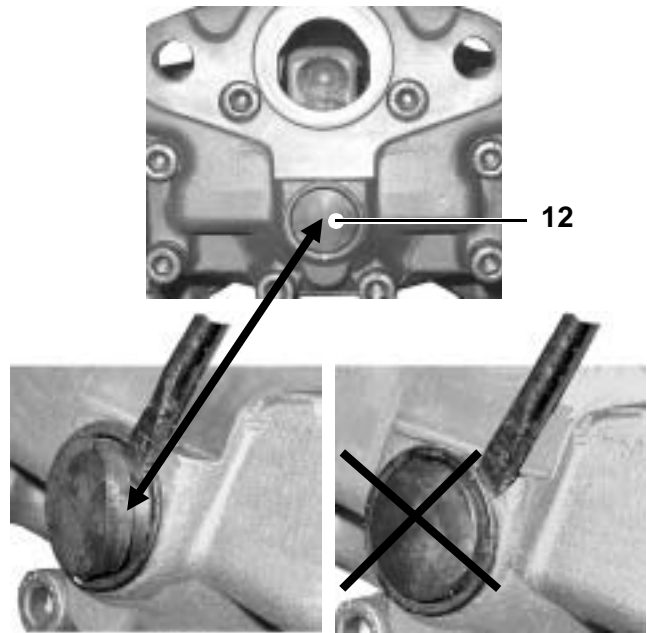
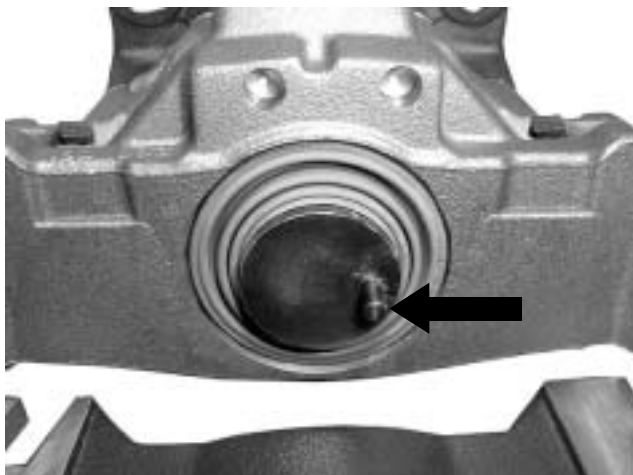

Fig. 2
Fig. 17
- Remove plug (12) for the adjuster from the caliper (22) carefully.
**Caution:** On disassembly the proper tool position is against the plug 12 (left side in Fig. 2)!
Do not place the tool between caliper and outer side of the sealing ring otherwise there is a danger of the damaging the inner sealing (right side in Fig. 2)
- Remove plug (12) for the adjuster (22) of the caliper (1) carefully.
**Caution:** While disassembling plug (12) please note the instructions for fig. 2!
- De-adjust the brake by rotating the hexagon on the adjuster nut (22) with a ring spanner than release by approx. 1/4 turn.
When re-adjusting push back the spreader plate (19) by hand to ensure that the pin as torsion lock (Fig. 17) for the adjusting screw does not slip out of its groove.